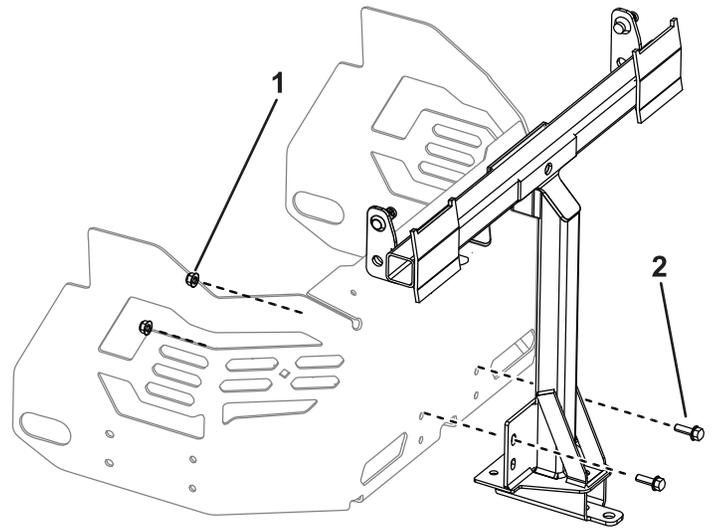

Figure 15
4. Loosely install the pivot frame to the machine frame using 2 bolts (5/16 x 1 inch) and 2 locknuts (5/16 inch) as shown in Figure 15.
6. Tighten the 2 bolts (5/16 x 1 inch) and 2 locknuts (5/16 inch) as shown in Figure 15.